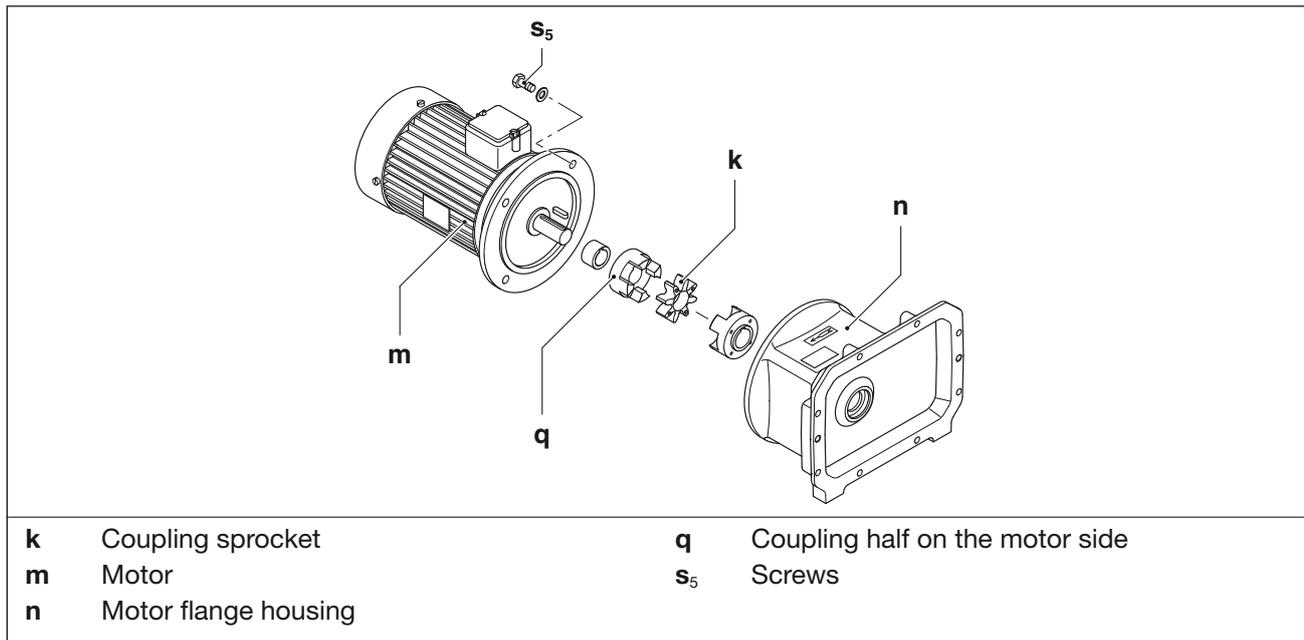

Fig. 13 Coupling
The coupling sprocket (Fig. 13/k) is subject to wear and must be checked regularly (at least 1 x per year).
- Suspend the motor (Fig. 13/m) on the eyebolt using lifting gear.
- Release the screws (Fig. 13/s₅) on the motor flange and axially pull the motor with the half of the coupling on the motor side (Fig. 13/q) off the motor flange housing (Fig. 13/n).
- Check the sprocket (Fig. 13/k). If the sprocket is damaged or worn, replace it.